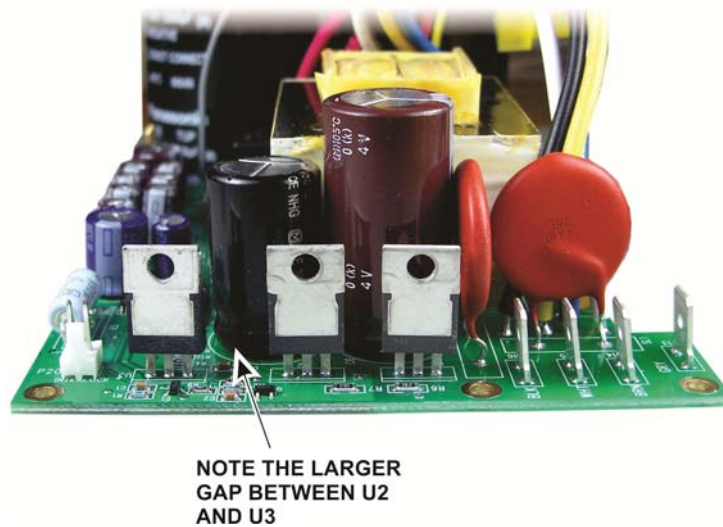

Figure 7. Power Supply Module I.C.s.
- Locate the Power Supply Module shown in Figure 7. Note the three metal-tabbed TO220 size I.C.s mounted at one end.